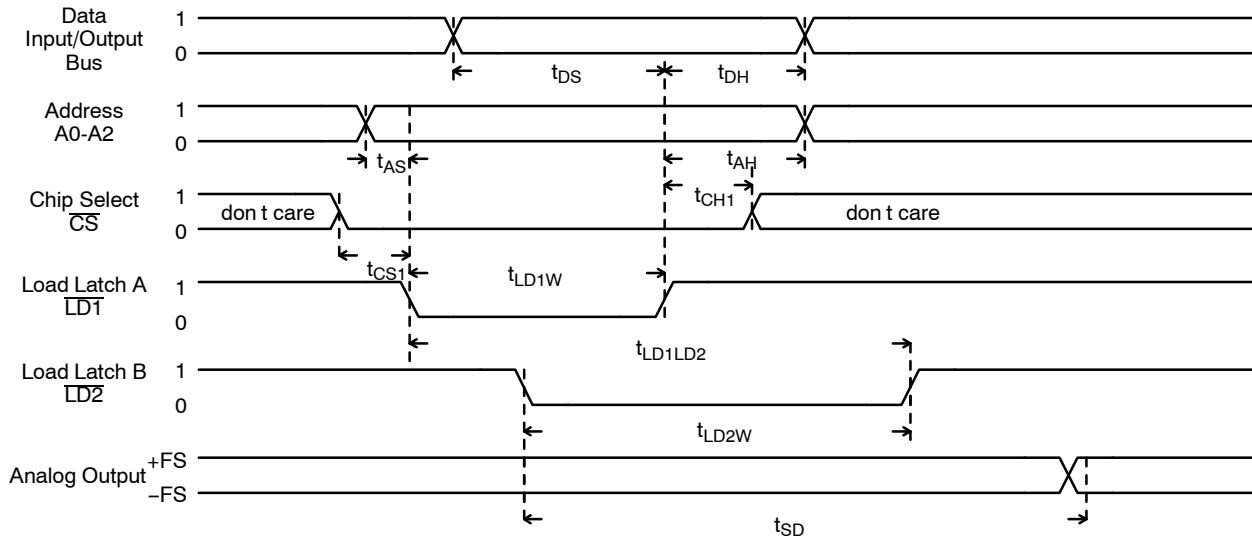

Figure 1. Loading Latch A and Updating Latch B
- See Figures 1, 2 and 3. All digital input signals are specified with $t_R = t_F = 10$ ns 10% to 90% and timed from a 50% voltage level.